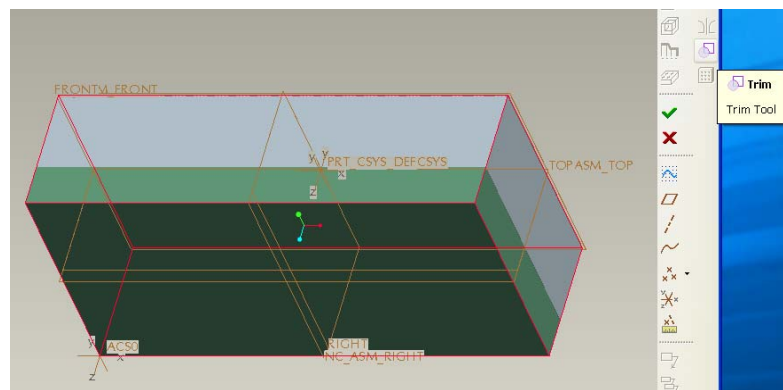

Figure 1.37
- We have sketched our entire workpiece. But we need to leave the material that represents our part. At this point Pro/E provides a Trim function that will “trim” the part from mill volume. Select **Trim** and select the part we wish to be “trimmed” out of the mill volume as shown in Figure1.37. We have defined the volume to be removed (the workpiece minus the part).